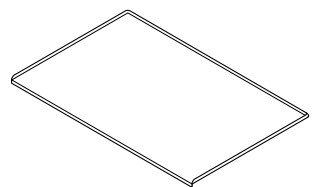

Fig. 2.16
- 2 sets of ladder rack supports (**Fig. 2.16**)